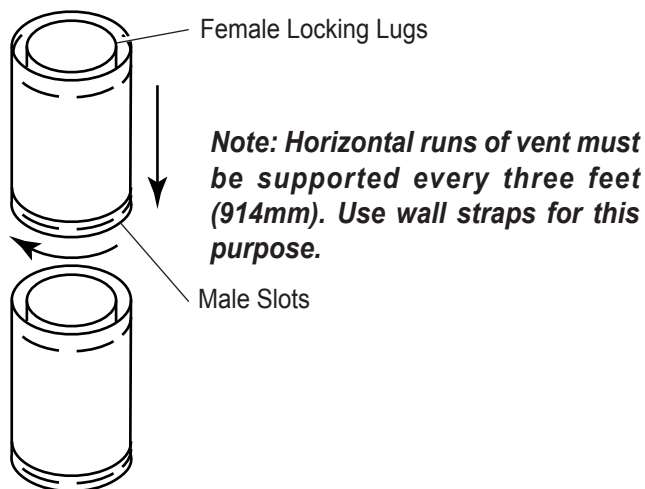

Figure 13 - Rigid Vent Pipe Connections
Twist-lock Procedure: The female ends of the pipes and fittings have three locking lugs (indentations). These lugs will slide straight into matching slots on the male end of adjacent pipes and fittings. Push the pipe sections together and twist one section clockwise approximately one-quarter turn until the sections are fully locked. See Figure 13.
2. Assemble the desired lengths of pipe and elbows necessary to reach from the burner system flue up through the firestop. Be sure pipe and elbow connections are fully twist-locked. See *Figure 13*, page 17.